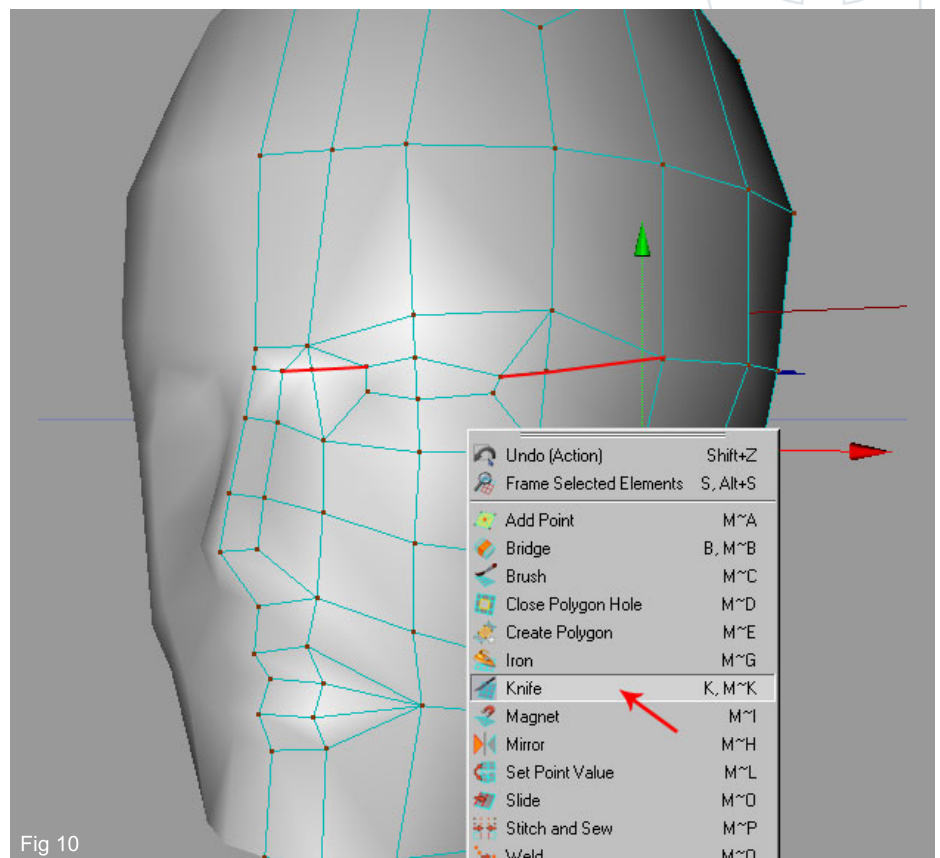

Fig 10
10. Now we are going to define the eye area. Add the edges as shown in fig 10 and use the Knife Tool to connect the vertices. This will help create a more convincing socket shape for the eye.